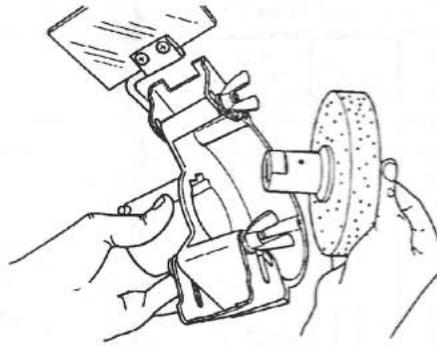

Fig. 15
16. Insert the arbor (13) into the "neck" of the guard, as seen in Fig. 15.